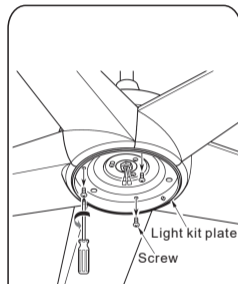

Fig. 22
Step 4: Remove the 3 screws from light kit plate And connect the wires between the fan and LED assembly with the connectors.(Fig. 22&23)